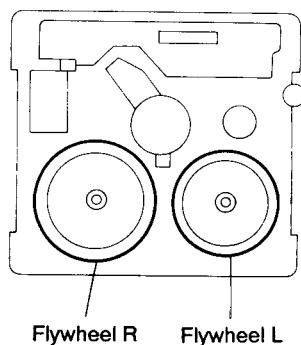

Fig.5-32
■ Removing the Flywheel (See Figs. 5-32, 5-33)
3. After turning over the cassette mechanism, remove the slit washers ④ and ⑤ fixing the capstan shafts R and L, and pull out the flywheels R and L respectively from behind the cassette mechanism.